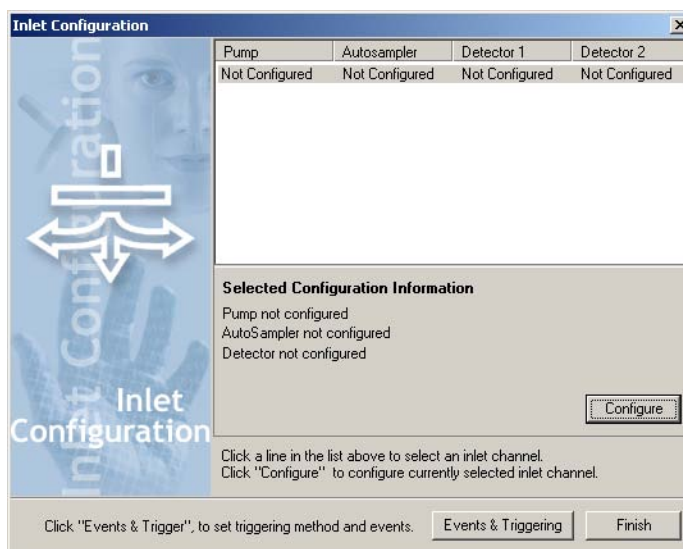

Figure 4-17 Inlet Configuration Dialog Box
10. From the Inlet Configuration dialog box (Figure 4-17) click Events & Triggering to open the Events and Triggering Wizard (Figure 4-19).